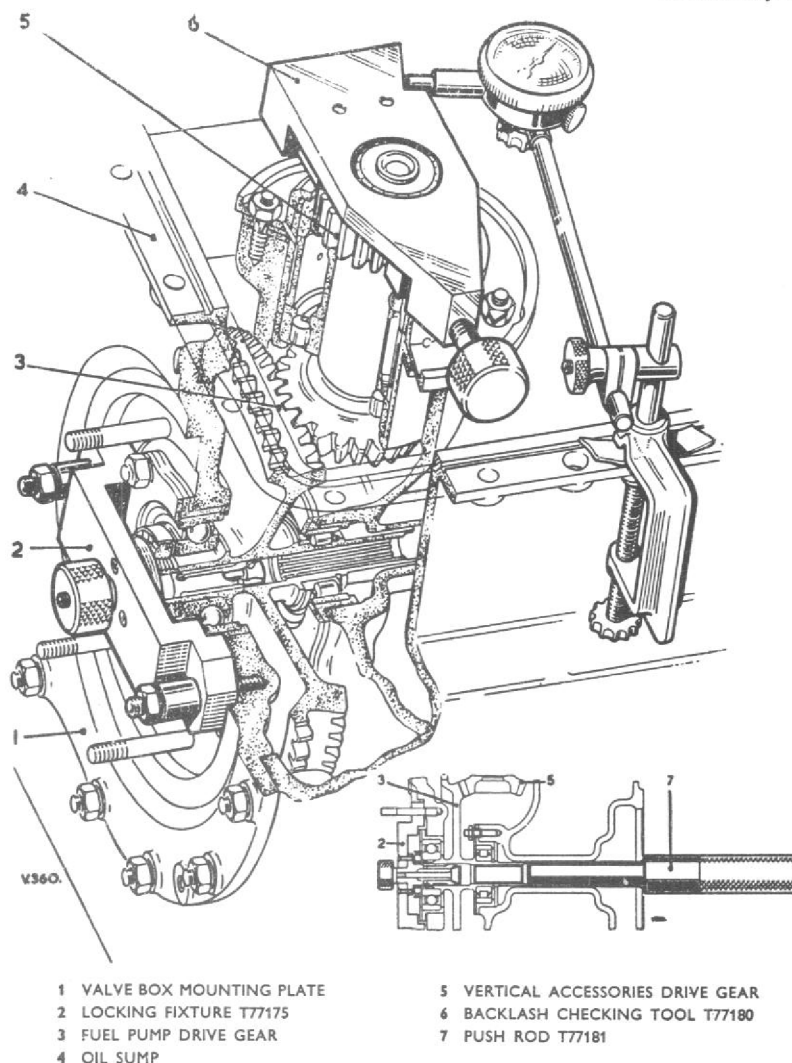

Fig. 17. Checking the backlash between the accessory drive bevel gear and the fuel pump drive bevel gear
- (14) Position backlash checking tool T77180 to the accessory drive driven gear.
- (15) Clamp a dial test indicator to a convenient position on the sump and locate the stylus on the scribed line of the backlash checking tool.
- (16) Using push rod T77181, push the fuel pump drive bevel gear outwards, then lock it with the locking fixture T77178 previously fitted in op. 5, as shown by the inset in fig. 17.
- (17) Check that the backlash between the accessory drive bevel gear and the fuel pump drive bevel gear is within the limits (fig. 17).